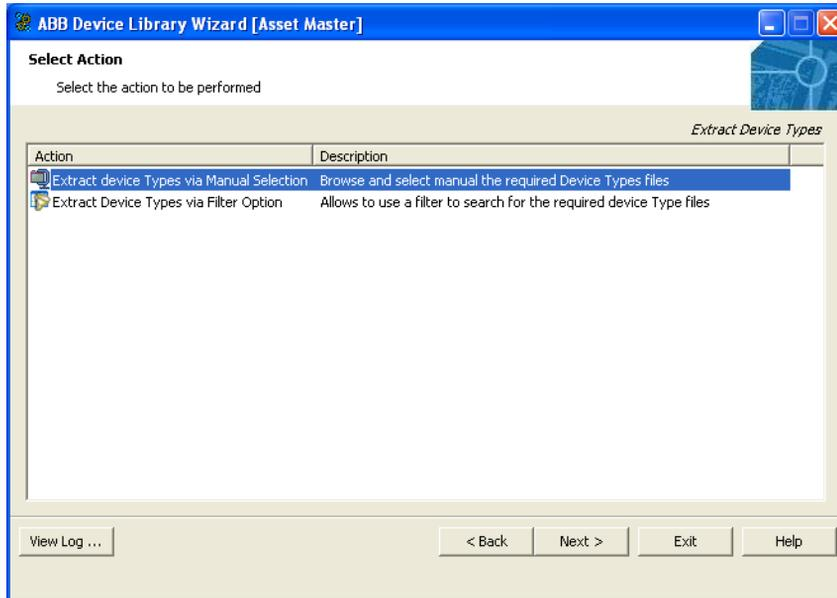

Figure 98. Select Action
5. A screen similar to the one shown in Figure 98 is displayed.